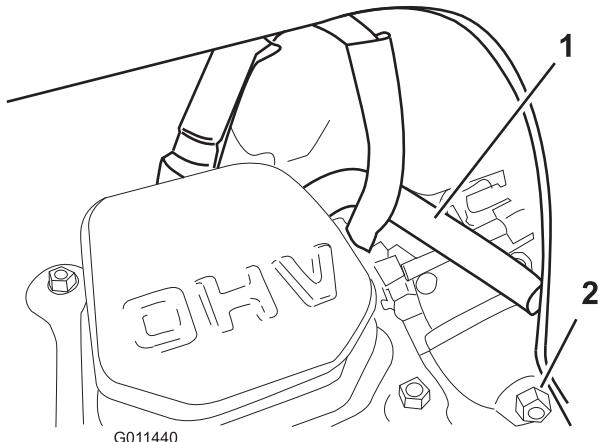

**Figure 35**
- Set the gap on the plug to 0.030 inch (0.76 mm) as shown in Figure 35.